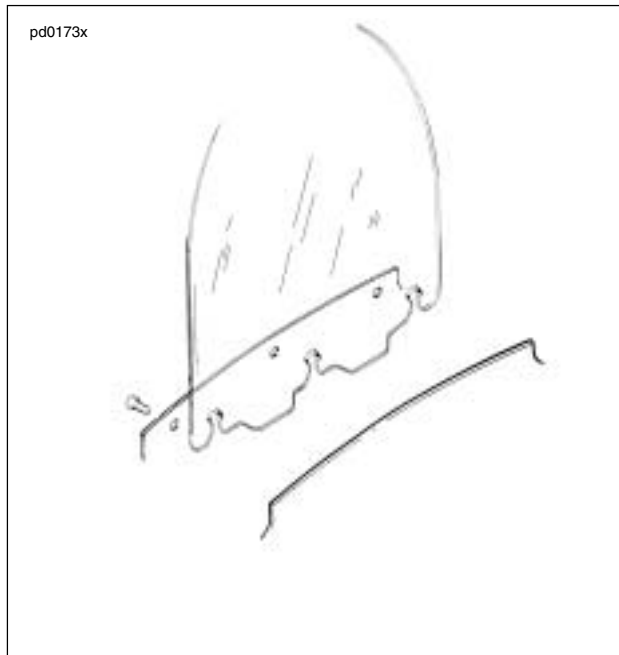

Figure 2-7. Windshield Installation-FLHT Models
1. See Figure 2-7. Loosen the three fasteners along the top of the outer fairing. It is not necessary to remove the fasteners.